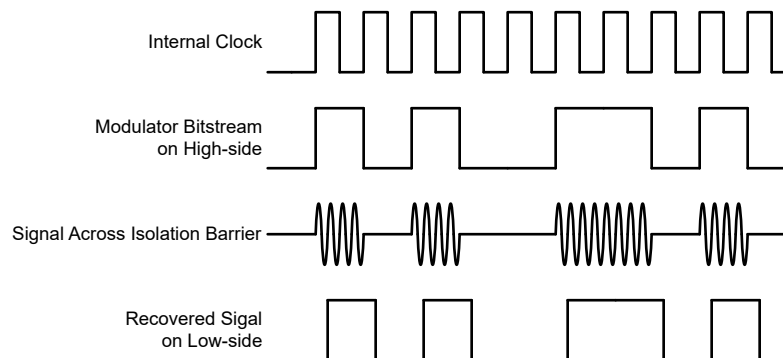

Figure 6-1. OOK-Based Modulation Scheme
As shown in Figure 6-1, the AMC1200C uses an on-off keying (OOK) modulation scheme to transmit the modulator output bitstream across the SiO₂-based isolation barrier. The transmit driver (TX) is illustrated in the Functional Block Diagram. TX transmits an internally generated, high-frequency carrier across the isolation barrier to represent a digital *one*. However, TX does not send a signal to represent a digital *zero*. The nominal frequency of the carrier used inside the AMC1200C is 480MHz.